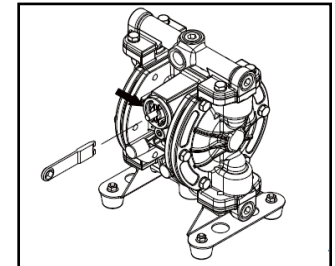

Figure 43
- Remove the cap using the cap A, cap B and disk remover (special tool: Part No. 771132.) (See Figure 43).